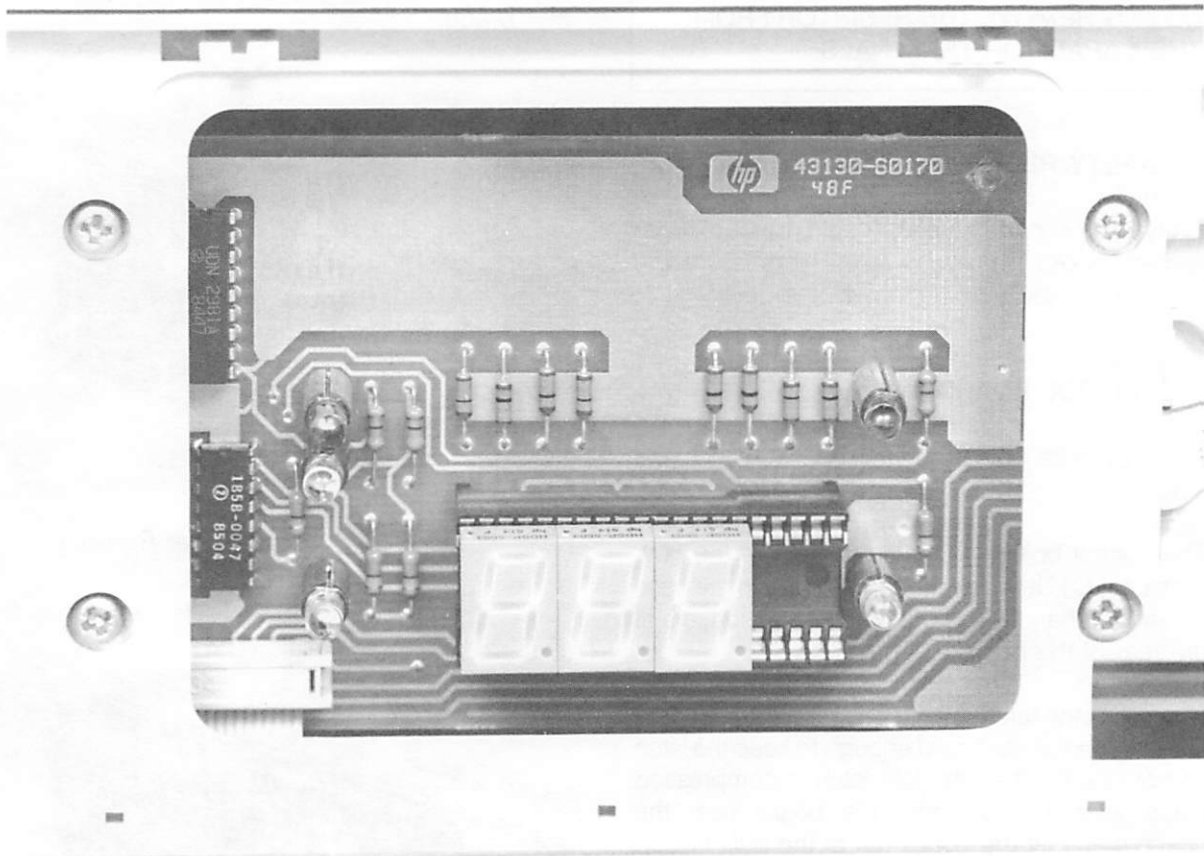

Figure 4-8. Display Digit Replacement.
2. The digits are socket mounted and can be lifted from the socket. When replacing the display digits, begin on the left end of the socket to be certain of the displays are in the proper socket contacts. See Figure 4-8.